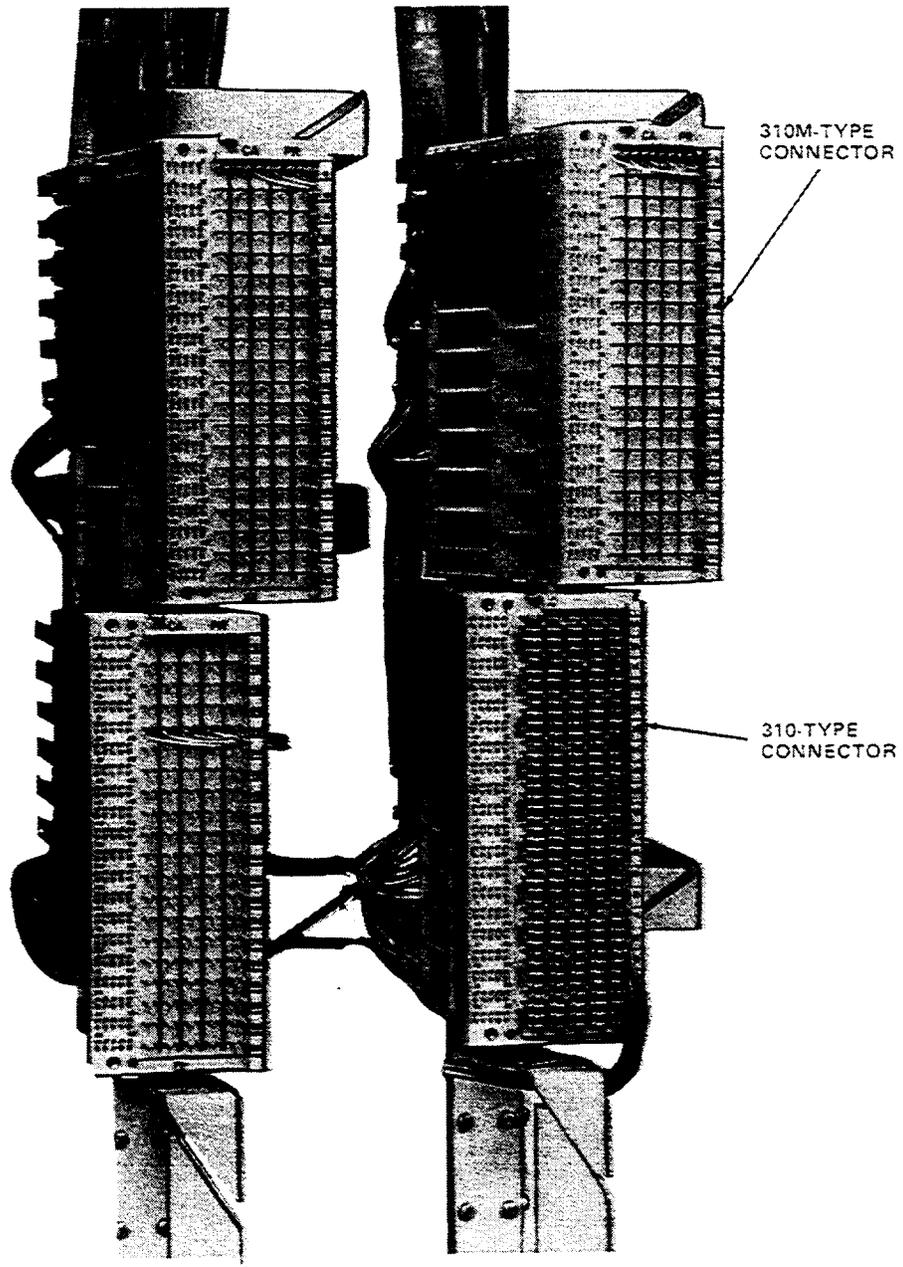
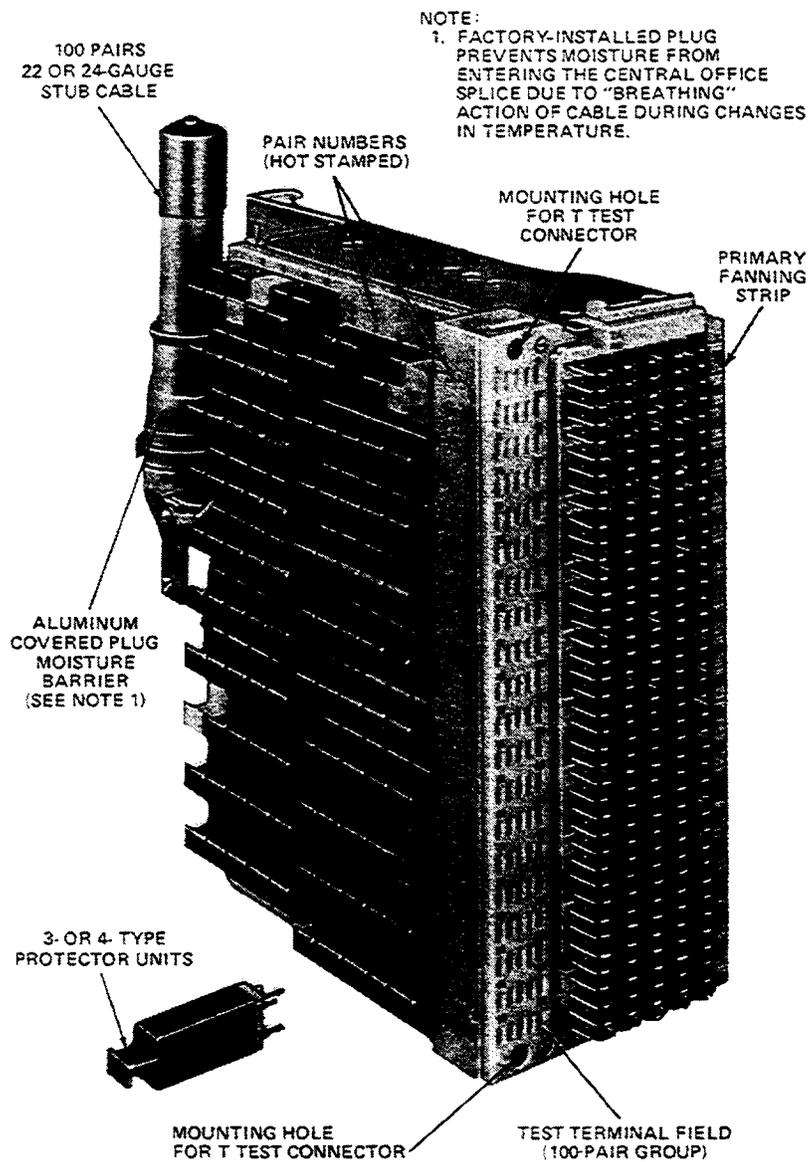

Figure 1. Angle Mounted 310M-Type (Top) and 310-Type Connector (Bottom)
Figure 2. 310-Type Connector — Left Side View — Quick-Clip Cross-Connect Field
**2.01** Two series of 310-type connectors (310/310L and 310M/310ML) are offered for convenience and ease of installation. All 310-type connectors have the same features except for the angled mounting arrangement of the 310M/310ML. The 310M/310ML-type connector mounting bracket is angled 12.5-degrees (Figure 1) to provide improved visual and physical access to the plug-in protector field while also maintaining front access to both the test and cross-connect fields (see Figures 2, 3, and 4). All the exposed wires in the UL Listed connectors are enclosed in a metal casing.